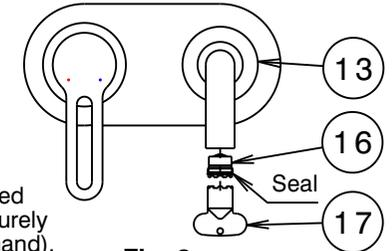
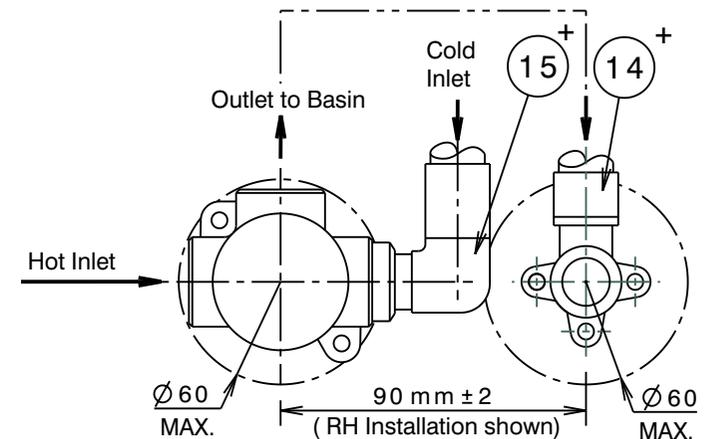

Fig. 2
Fig.3
- 1) Fit mixer body (12) onto a suitable mounting plate or noggin in the wall and secure using screws through the holes in its base. When facing the mixer, the connections should be as follows : Hot water inlet connection 'H' to the left. Cold water inlet connection 'C' to the right. Mixed water outlet connection, vertically upwards.
**Note :** A suitable elbow fitting (15+) should be fitted to the inlet connection adjacent to the basin outlet (13) (Fig.3). Check all connections for leaks.
- \* Mixer body (12) must be installed square to wall/tile face, to ensure cover plate (8) sits flush.
- 2) Accurately mount a wall elbow (14+) (or equivalent) for connection to the basin outlet in the desired orientation (to the right or left of mixer body)(Fig.2).
All care should be taken that the wall elbow (14+) is mounted accurately in line with, and at a distance of 90mm±2 from the adjacent mixer body (12) and that it is square to the wall/tile face (Fig.3). Connect the mixer body outlet to the wall elbow (14+). **Note:** Pipework and fittings are not supplied.
### Replacing Aerator Insert (Fig. 2)